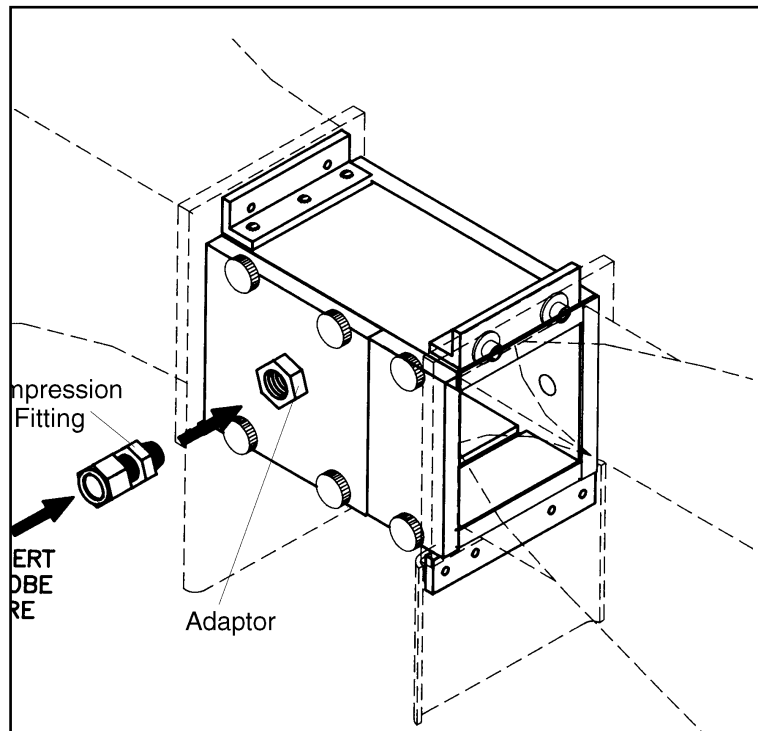

Figure 3-3. Probe Placement
4. Using the compressing fittings provided, mount the probe to be calibrated in the wind tunnel. Refer to Figure 3-3. Some probes have directional air flow for upstream and downstream sides. Make sure the probe is installed without any leaks.